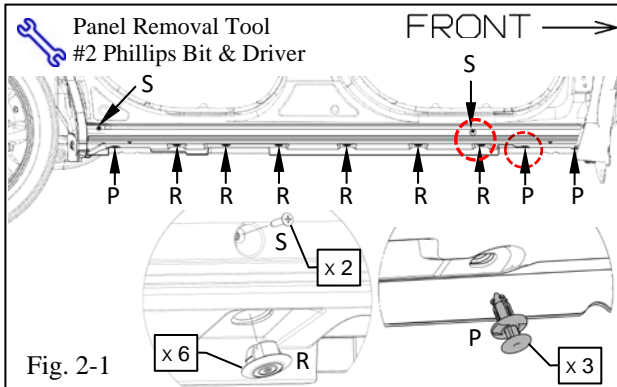
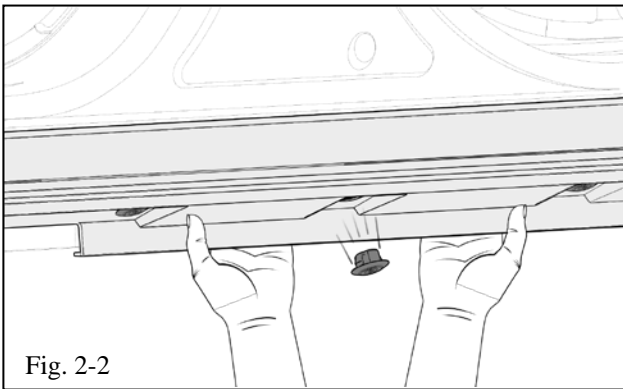

Fig. 2-1
Fig. 2-2
- (a) Using a #2 Phillips driver, unfasten two (2) screws (S). One (1) at the front and one (1) at the rear of the rocker panel molding (Fig. 2-1).
**NOTE:** Retain one (1) of the screws for reinstallation, discard the other.
- (b) Using a panel removal tool, remove and discard the two (2) push-pins (P) at the front and one (1) at the rear (Fig. 2-1).
- (c) Pull the cladding down and out along the bottom for each of the six (6) rocker panel molding retainers (R) – this will cause them to pop out of the rocker (Fig. 2-1, & Fig. 2-2). Discard the retainers.